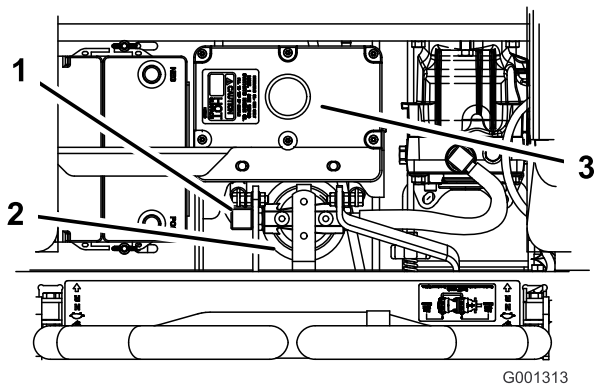

Figure 72
- Remove the righthand hydraulic line that comes into the adapter (Figure 72).
- Install the righthand hydraulic line to the adapter (Figure 72).